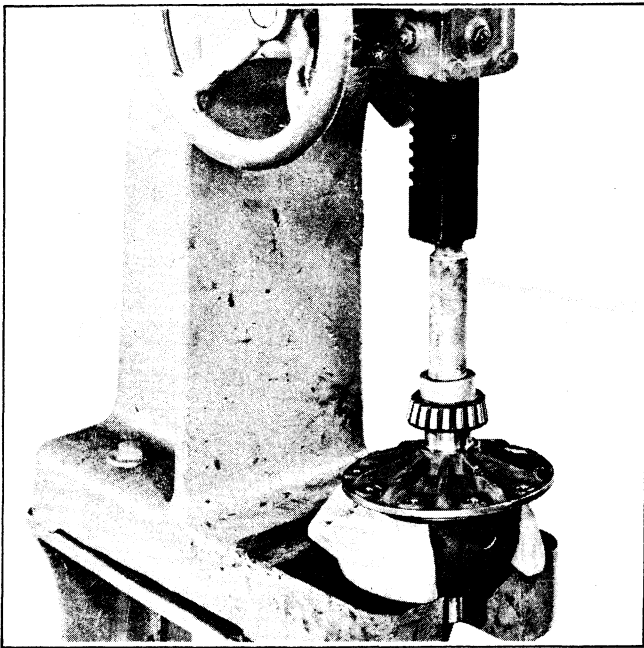

Figure 2-12. Pressing On Bearing Cone
3. Place differential case assembly (11) in a suitable holding fixture.
4. Install drive gear (14) with screws (13). Torque screws to 45 ft.-lbs.
5. Position under arbor press. Press on differential bearing cones (9) without shims (12). Use press tool similar to one shown in Figure 2-12.
6. Place bearing cups (8) on the bearing cones (9). Make sure parts are clean and free from nubs and burrs. Cups should be clean and free from mutilations.
7. With differential cover side up, place differential case assembly (11) in housing (2).